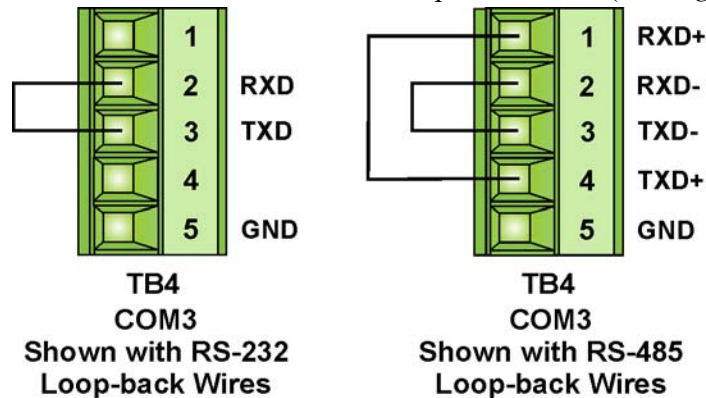

Figure 5-11. COM3 RS-232 & RS-485 Loop-back Wires
- Port 3 - RS-232 use loop-back wires (see *Figure 5-11*).
- Port 3 - RS-485 use loop-back wires or CPU Switch SW3 (see *Figure 5-11*).